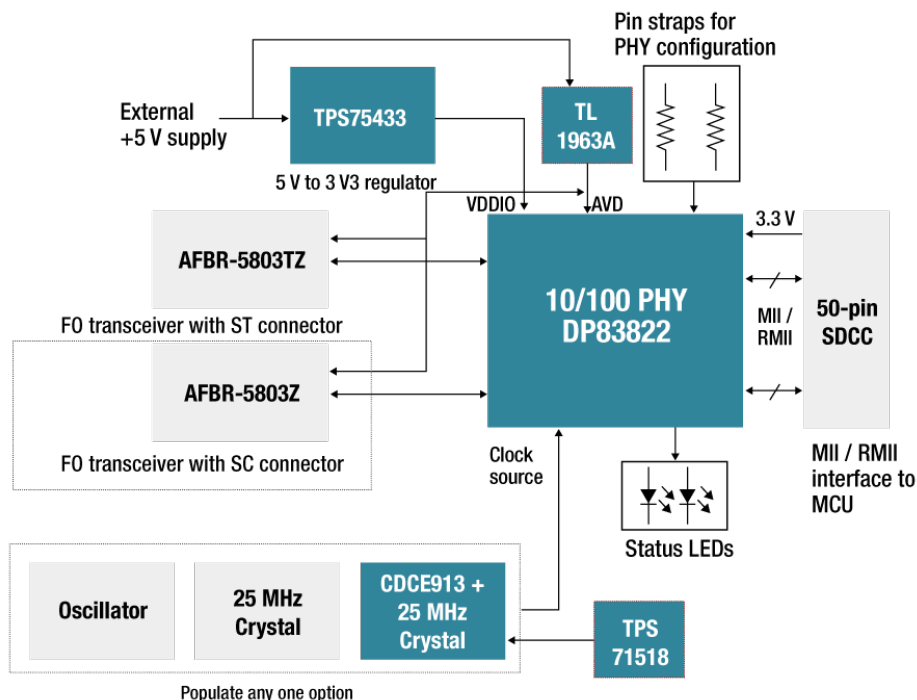

Figure 1. Ethernet Brick with Fiber Optic Interface Block Diagram
As shown in TI's EMI/EMC Compliant 10/100 Mbps Ethernet Brick with Fiber or Twisted Pair Interface Reference Design, the DP83822 Ethernet physical layer offers high performance in harsh industrial environments, providing an Institute of Electrical and Electronics Engineers (IEEE) 802.3u-compliant 100BASE-FX, 100BASE-TX and 10BASE-T solution for 10-/100-Mbps copper or 100-Mbps fiber-optic interfaces. The reference design is compliant to European Standard (EN) 55011 Class-B EMI requirements and immune to International Electrotechnical Commission (IEC) 61000-4-2 Level-4 electrostatic discharge (ESD) levels, offering compliance for industrial environments and giving equipment manufacturers' confidence for quicker certification. TI's DP83822 (10/100 Mbps) and DP83867IR (10/100/1000 Mbps) Ethernet transceivers provide a high-immunity interface in harsh industrial environments while consuming low power. The functional block diagram of a fiber optic interface is shown in Figure 1.